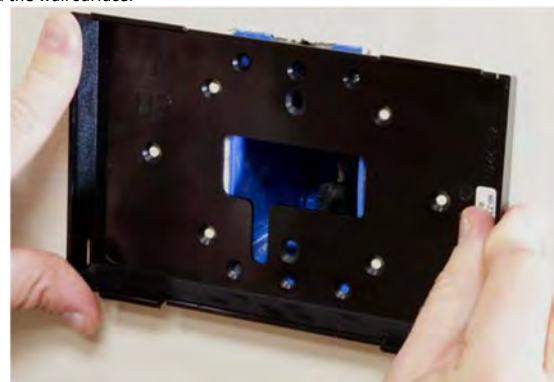

FIG. 3 TESTING THE ALIGNMENT OF THE BACK BOX SCREW HOLES.
- Match the screw connector holes on the gang box with the holes in the back box (FIG. 3).